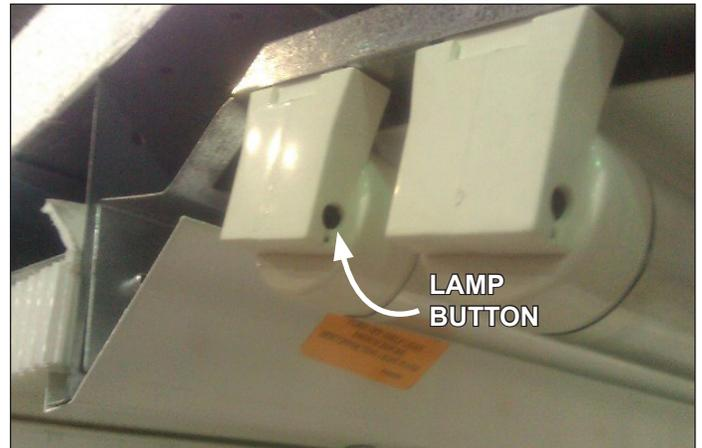

Fig. 18 Align new T-8 with plug button to secure
3. Push the new T-8 lamp into place on the lamp holder. When the T-8 is properly seated, the lamp button - which secures the T-8 to the lamp holder - will be clearly visible through the lamp button hole (Fig. 18).